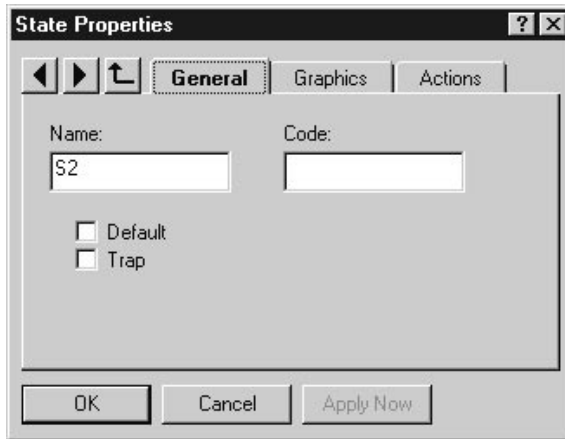

Figure 1-35. State Properties Window.
6. define or set up the **State Properties** (Figure 1-35).